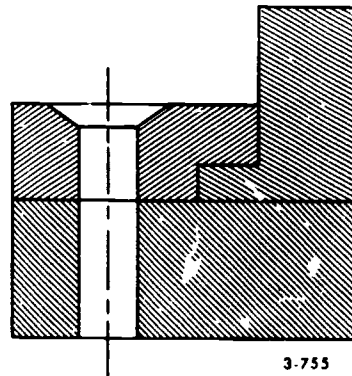

Figure 4-20. Three adjacent parts in section.
c. When three adjacent parts are in section, two of them have 45° crosshatching in opposite directions, and the third part is crosshatched at a 30° or 60° angle, as in figure 4-20.